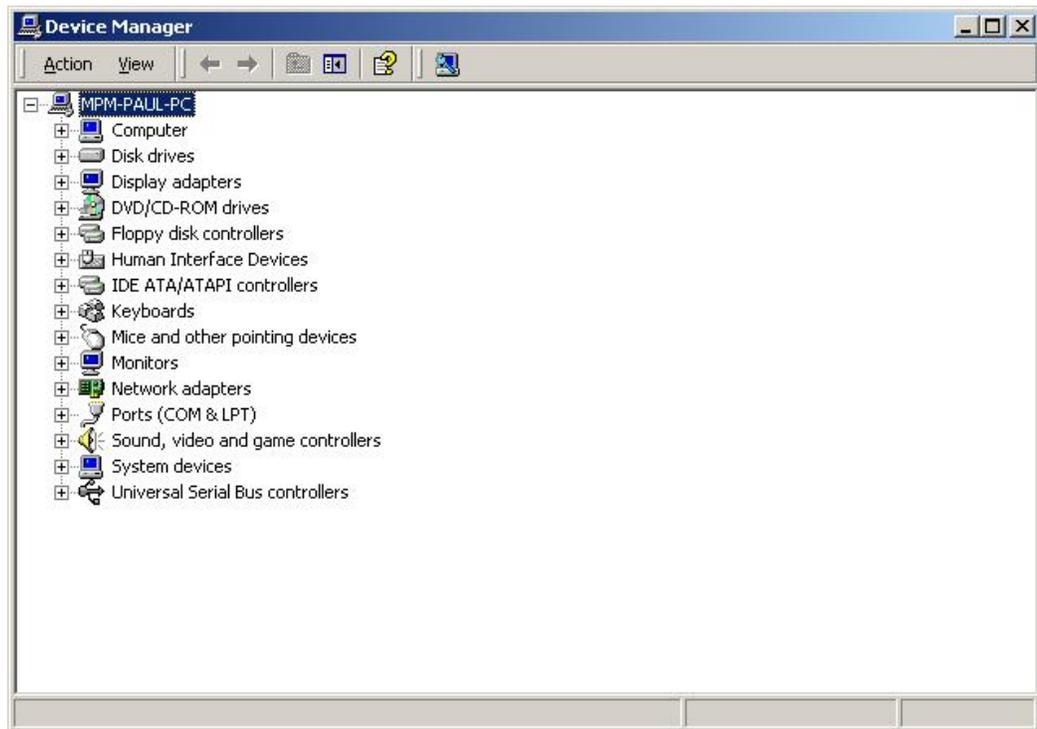

Figure 6-19: Device Manager List
Step 4: A list of system hardware devices appears (Figure 6-19).